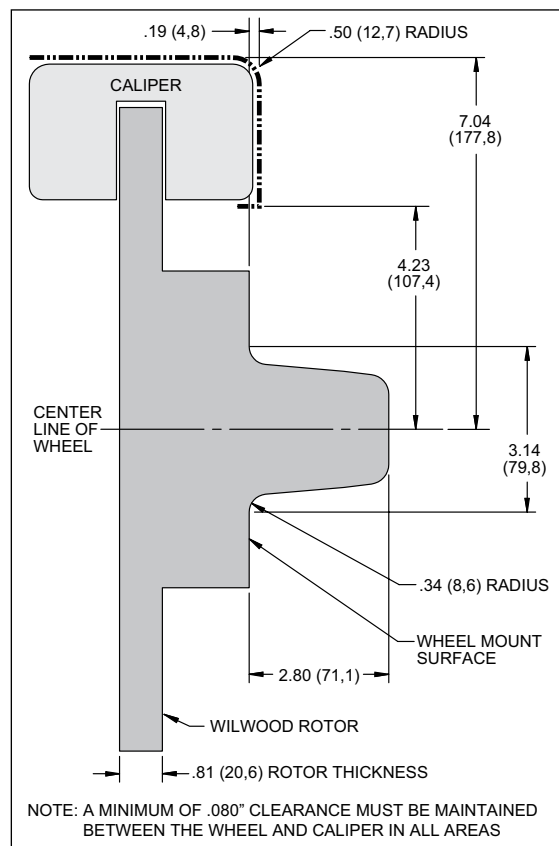

Figure 3. Wheel Clearance Diagram
- Review the Wheel Clearance Diagram (Figure 3, page 6) to verify that there is adequate clearance with the wheels you will be using with the installation.
- Verify wheel clearance utilizing Figure 3.